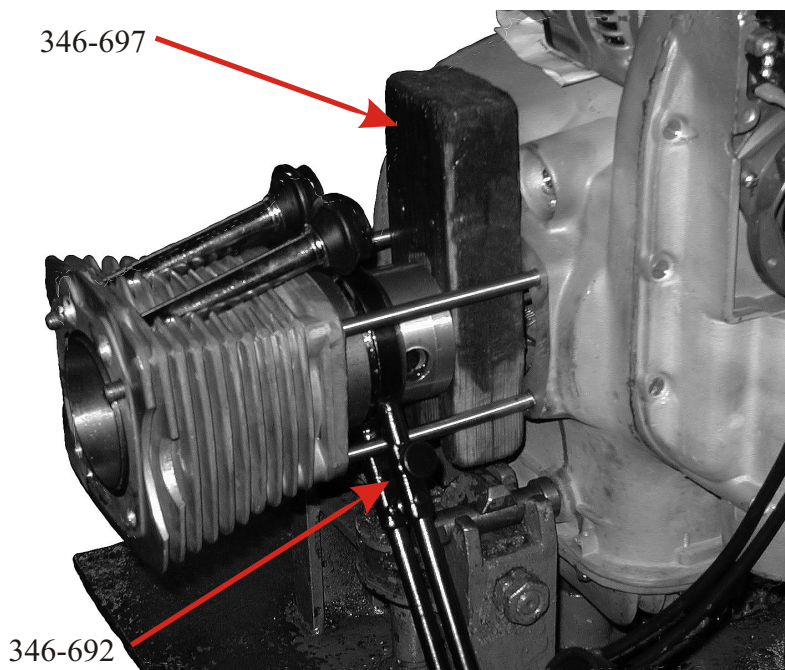

Fig.2
- Put distance bar 346-697 between the piston and the engine crankcase (See Fig.2)
- Insert device with its hole onto either stud and compress the piston rings. (See Fig.2). put the cylinder onto studs, insert piston head into the cylinder and move the cylinder into the distance bar until it stops.